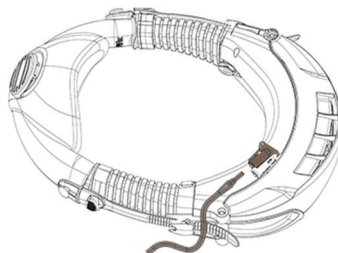

Figure 39 - Charging Port
- To charge the internal battery, turn the respirator upside down, and locate the charging port. See Figure 39.